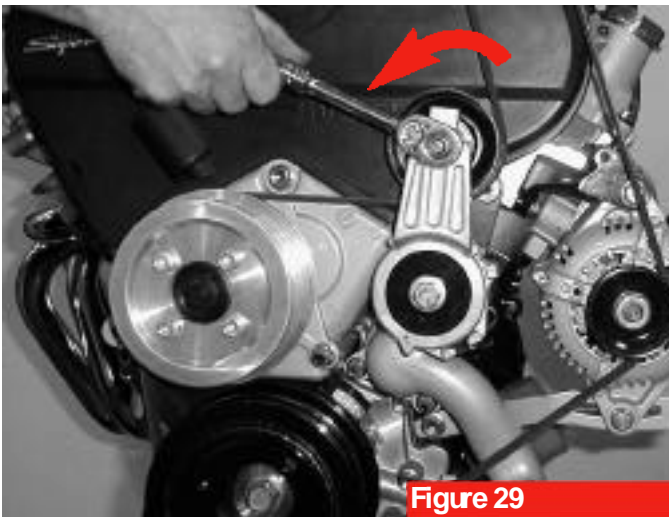

Figure 29
7. To assist in belt installation, using a 3/8" long handle ratchet (figure 29), pull down in direction of arrow to provide slack on belt.